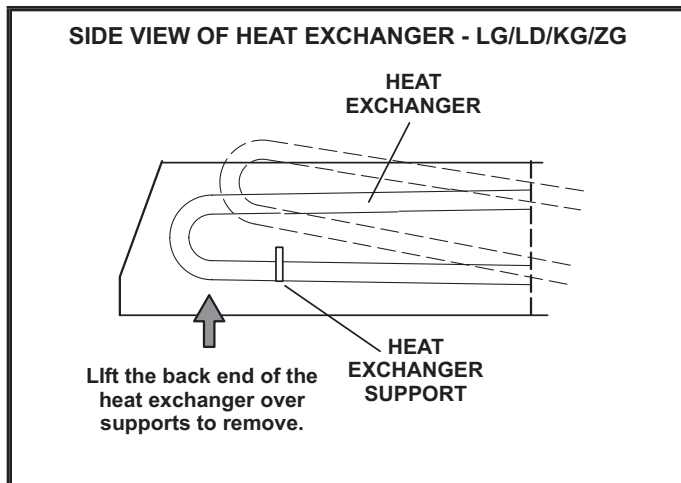

FIGURE 4
- 2 - Lift the back end of heat exchanger over the top of the supports and slide exchanger slightly toward the front of the unit. See FIGURE 4.
- 3 - Remove the heat exchanger as shown in FIGURE 4.
- 5 - Remove the heat exchanger as shown in FIGURE 4.